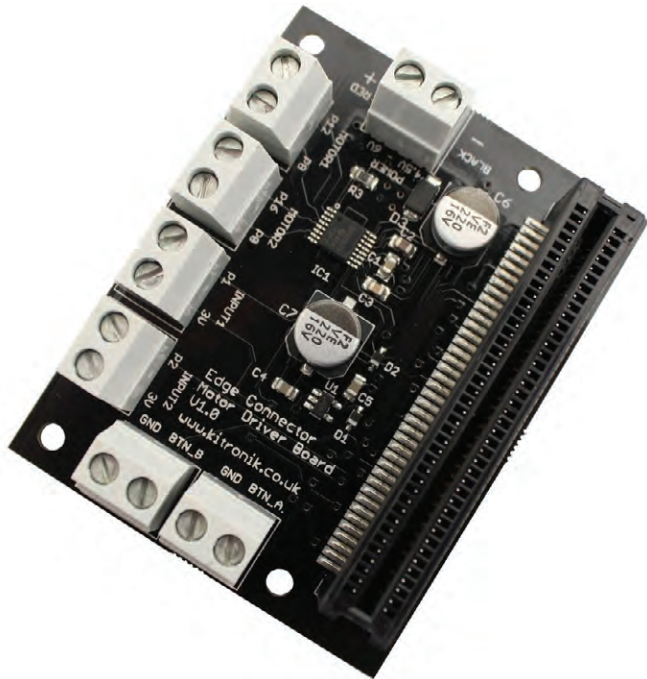

FIGURE 1.7: The Edge Connector Motor Driver Board
- The Edge Connector Motor Driver Board (Figure 1.7)— If you want to use your micro:bit to do anything really cool, like, say, drive a robot in response to signals from your cell phone, you're going to want this board. Again, you slide the micro:bit into the slot, and all the pins you need to connect to external motors and power sources are instantly made available to you. It's very handy and will save you a lot of time when it comes to building.